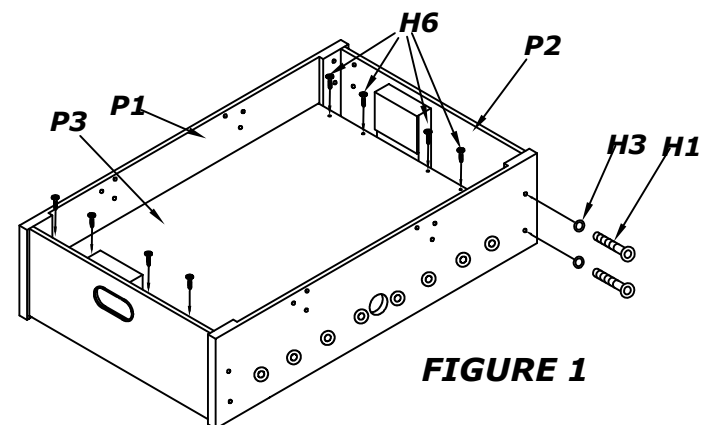

FIGURE 1
1. ATTACH THE TWO END PANELS **P2** TO THE SIDE PANELS **P1** AS SHOWN IN **figure 1**. **REMEMBER: THE GROOVE MUST FACE INWARD TOWARD THE PLAY FIELD**. ATTACH THE END PANELS WITH BOLTS **H1** AND WASHERS **H3**.
2. ATTACH PLAY FIELD WITH SCREWS **H6** IN THE ENDS AS SHOWN IN **figure 1**.